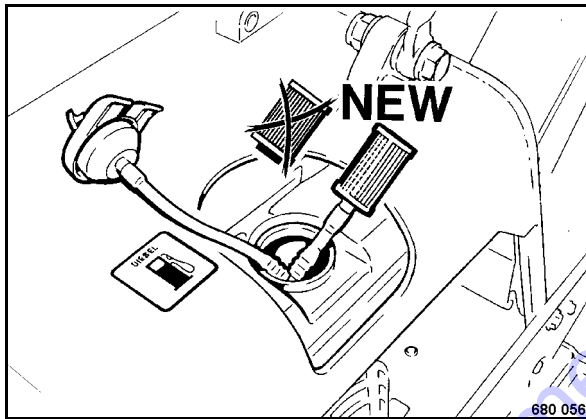

Fig. 62
- Open the quick lock on the tank (Fig. 62).